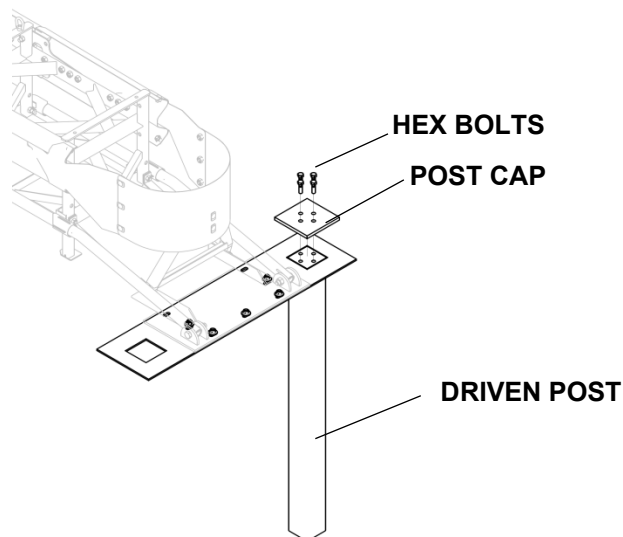

Figure 6
4. Use the 3/4" x 2 1/2" hex bolts to fasten the 3/4" x 10" x 10" Post Cap to the top of the Post (see Figure 6).